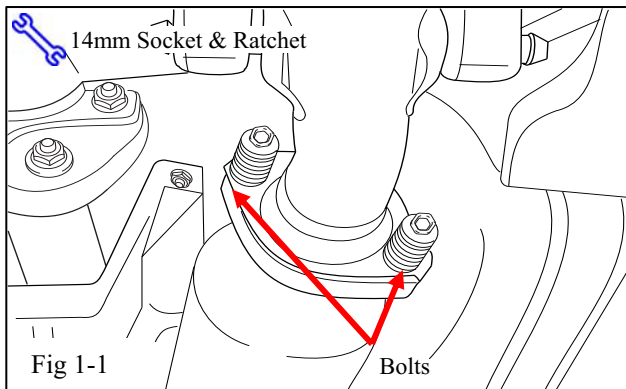
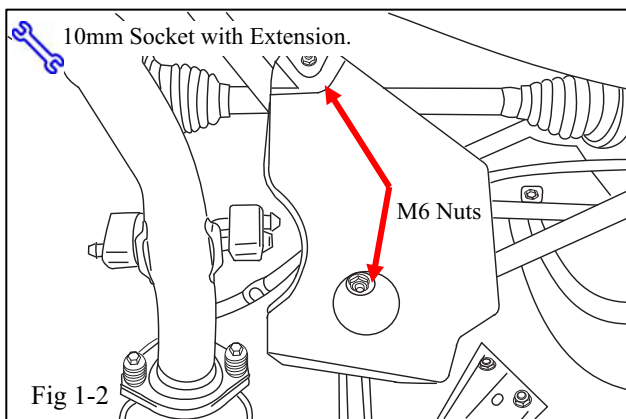

Fig 1-1
Fig 1-2
- (b) Remove the two bolts and springs from the flange. Fig. 1-1.
- (c) Keep all original equipment (OE): bolts, springs and gasket.
- (d) Remove small plastic aero panel by removing two M6 nuts using 10mm socket with extension. Fig. 1-2